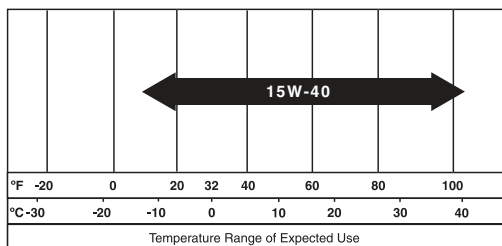

FIGURE 17: Recommended Oil Viscosity
12. Fill the oil fill container (included) with the appropriate amount and type of new (unused) oil. (See Figure 17 for recommended oil type.)